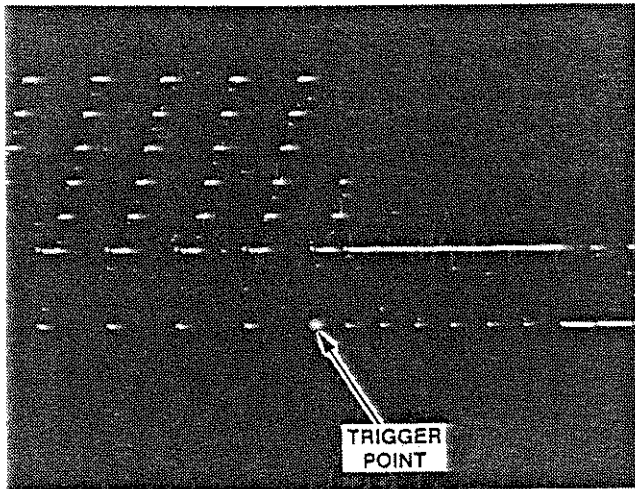

Fig. 4-30 TV field 2, line 525 display
- f. CHECK that the Monitor display is triggered and indicates the correct line (Field 2, Line 525) as shown in Figure 4-30.